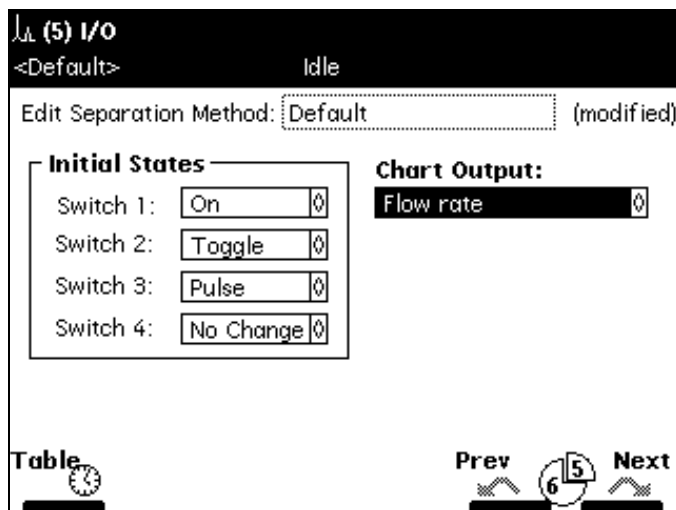

Figure 5-17 I/O Screen
1. Press the **Next** or **Prev** screen key to display the I/O screen (Figure 5-17).